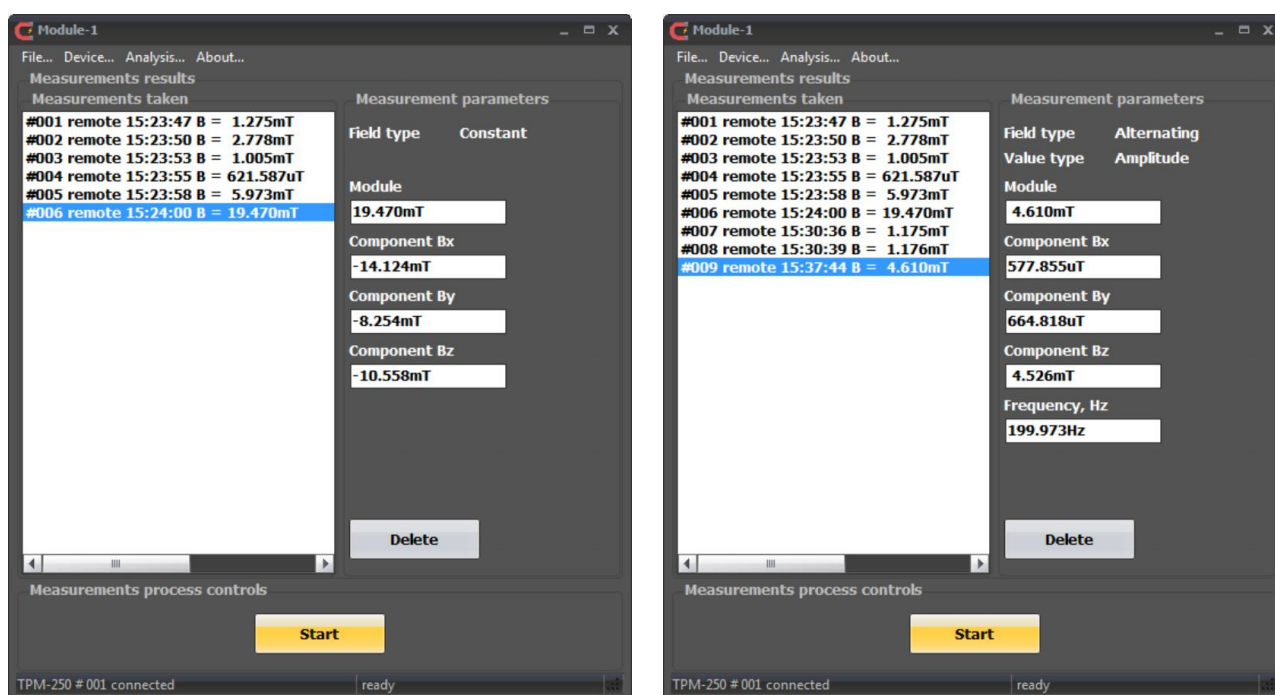

Figure A.1. The main window of the "Module-1" software displaying the results of DC (left) and AC (right) measurements
5.2 The main window of the TPM-250 "Module-1" software is shown in Figure A.1.